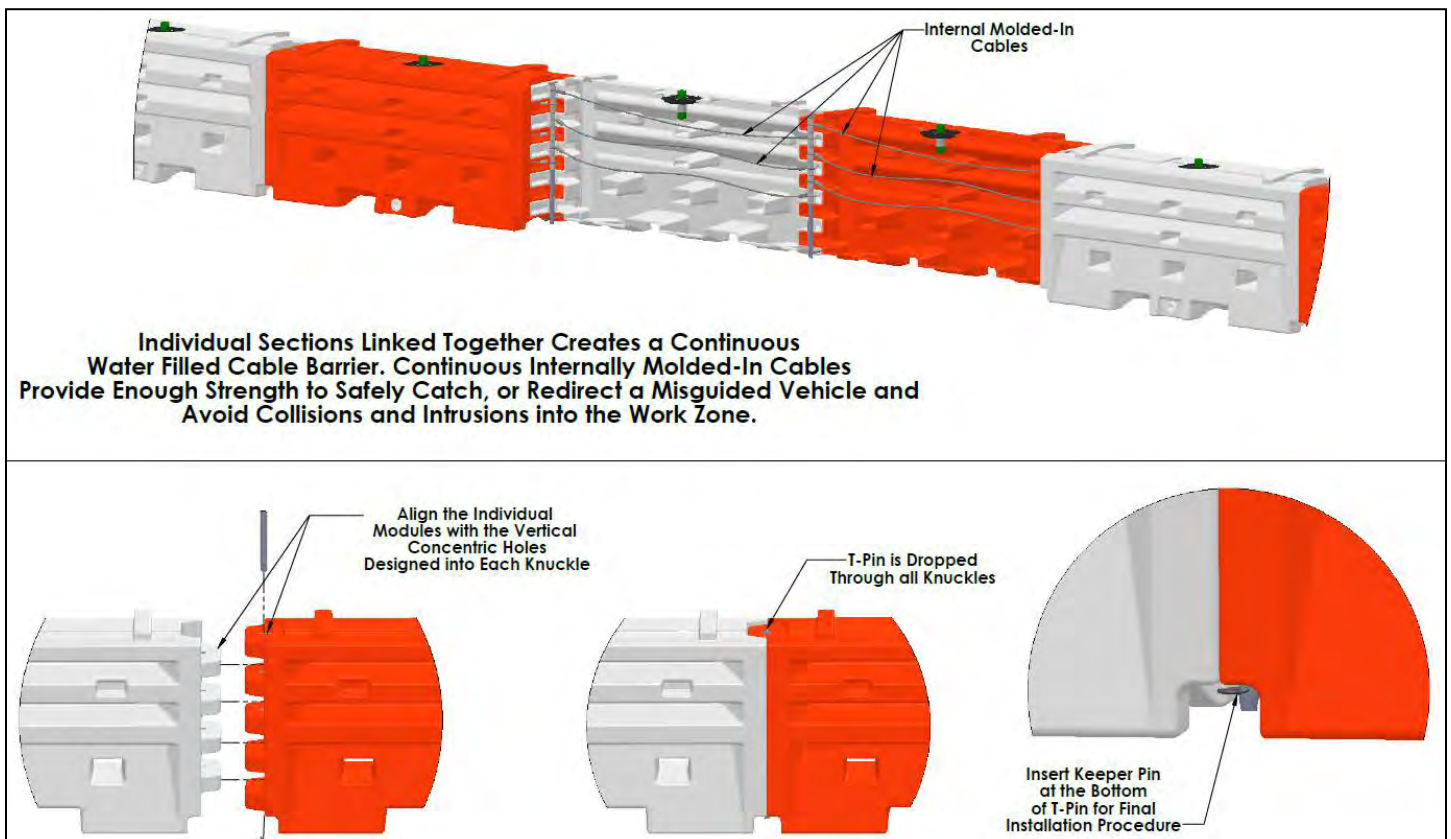

Figure 4: Installation Assembly Guide Diagram
At the end of each module are interlocking knuckles. Within the knuckles are a series of vertical concentric holes as seen in Figure 4 below. When linking individual modules together, the knuckle holes are vertical aligned with the adjacent module. This creates a series of nine (9) knuckles interlocked together with a connecting T-Pin, which is inserted through the concentric holes. Located at the bottom of each T-Pin is a safety keeper pin which is inserted into the alignment hole at the bottom of each T-Pin as seen in Figure 4. The keeper pin must be inserted to finalize the installation on each module.